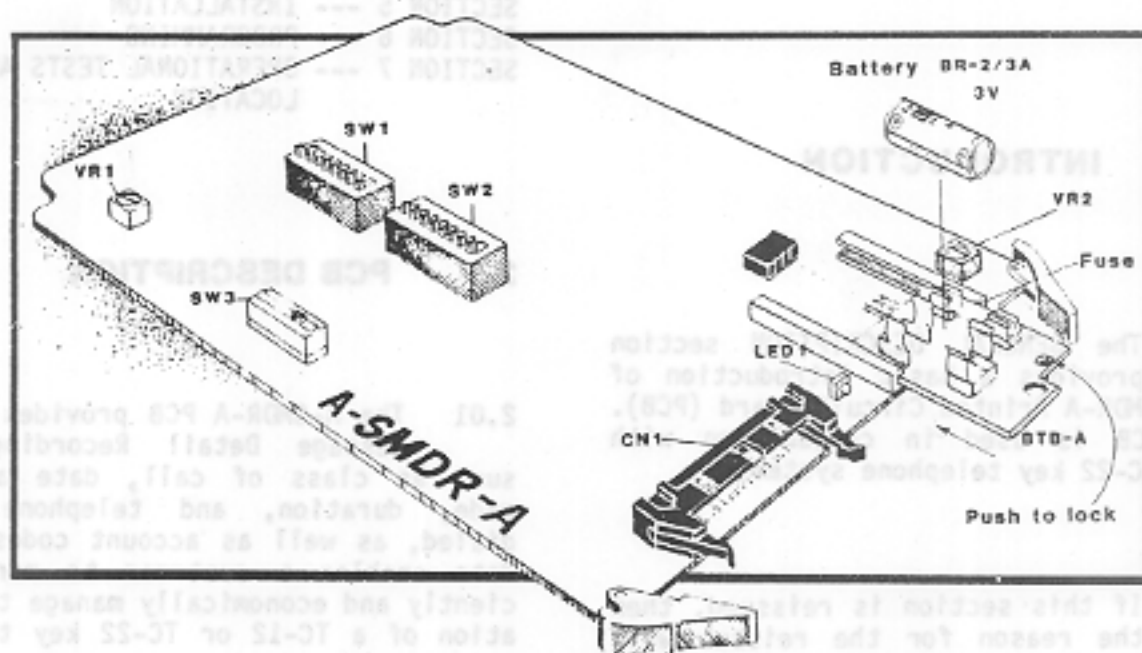

Figure 1-1 A-SMDR-A PCB.
3.01 The A-SMDR-A PCB has two DUAL-IN-LINE PACKAGE (DIP) switch assemblies, each containing 8 switches, and a single, 8-position DIP slide switch (refer to figure 1-1). Switch assembly SW1 controls various PCB options. Switch assembly SW2 has been incorporated for implementing future options, and slide switch SW3 sets the rate data is transmitted to the recording device. This PCB also contains the system operating software, the programs and memory for con-
3.02 The BTB-A PCB contains connecting pins, battery clips, fuse clips, a 0.25 Ampere fuse, and a push-to-lock fastener to attach it to the A-SMDR-A PCB (refer to figure 1-1). With battery installed, the BTB-A provides battery power to the real-time clock on the A-SMDR-A during power failure. A fully charged battery can maintain the clock operation of up to one year. The battery, which is fuse-protected against accidental short circuit on the A-SMDR-A PCB or improper battery installation, can be replaced without removing the A-SMDR-A. The battery supplied is a 3-volt, non-rechargeable, lithium battery; designation BR-2/3A, 3V (TIE part No. 12364).